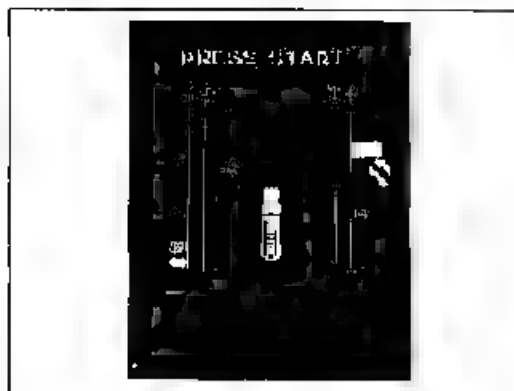

Figure 2-2 Ready-to-Play Mode
B. READY-TO-PLAY MODE (See Figure 2-2)